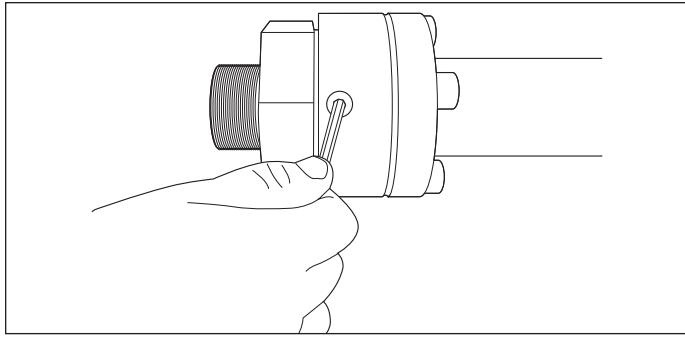

Figure 21-9
8. Repeat the Fuel Sensor and Fuel Sensor Housing Installation procedures if an additional fuel sensor is being installed on the opposite end fitting. If only using one fuel sensor then ensure DoubleTrac® secondary plug on opposite end fitting is installed and tightened (Figure 21-9).